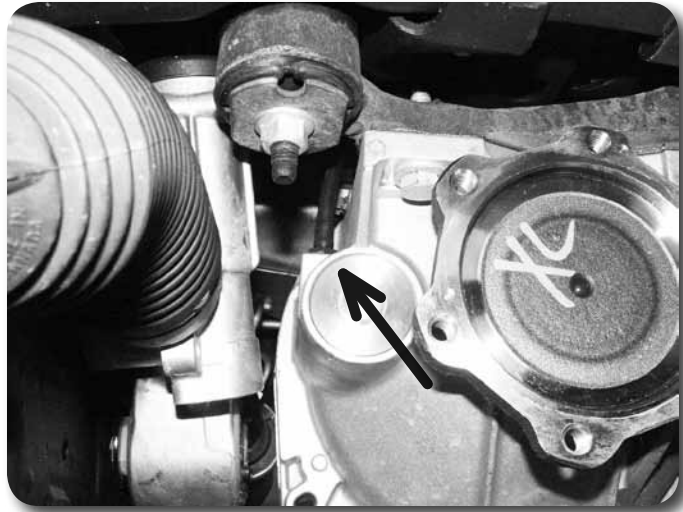

Figure 11
19. Disconnect the differential breather hose **Figure 11**.